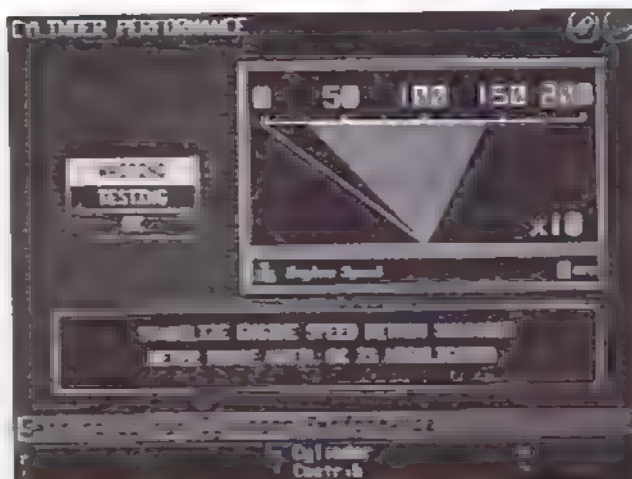

Figure 3-42
1. Press [F2] (Diagnose) to start the *Cylinder Performance* test. The *Cylinder Performance* meter screen appears (see Figure 3-42). Adjust the vehicle's engine to provide a stable RPM reading, and then press [F2].